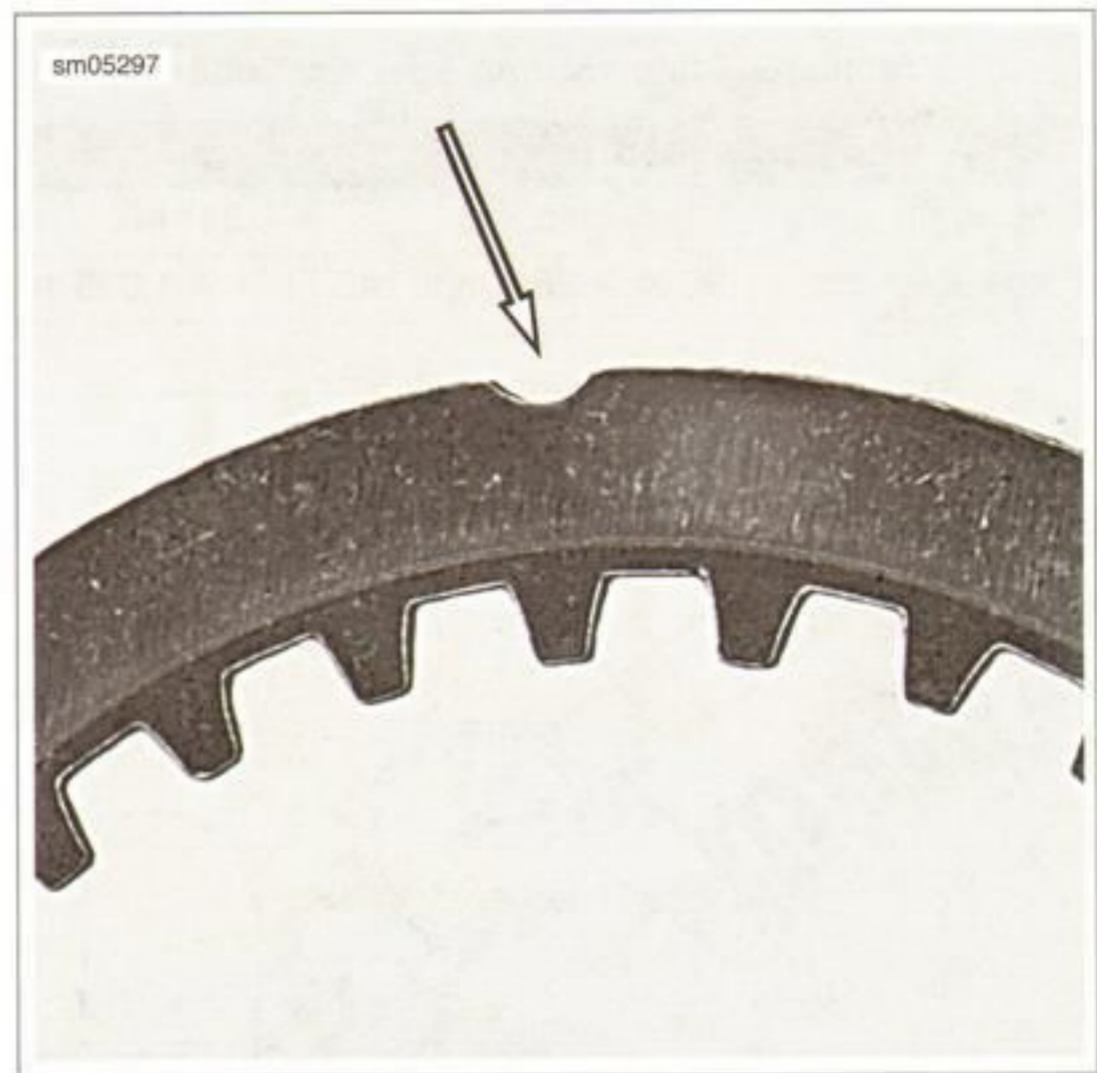

Figure 6-44. Notch in First Steel Plate
1. See Figure 6-44. Identify the steel plate with the extra notch on its circumference.